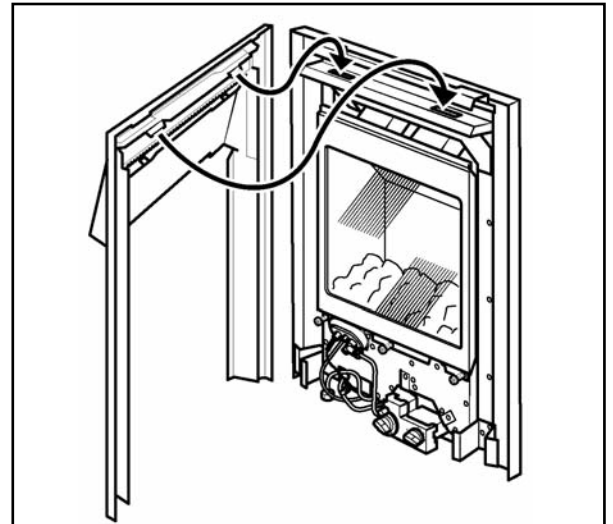

Figure 34. Fascia fitting (Fascia may differ from that shown)
- Locate the two lugs at the top of the fascia in the slots in the convection box hood. Swing the bottom of the fascia sides back against the convection box and lower the fascia so that the lugs are fully seated in the slots in the convection box hood (See figure 34).